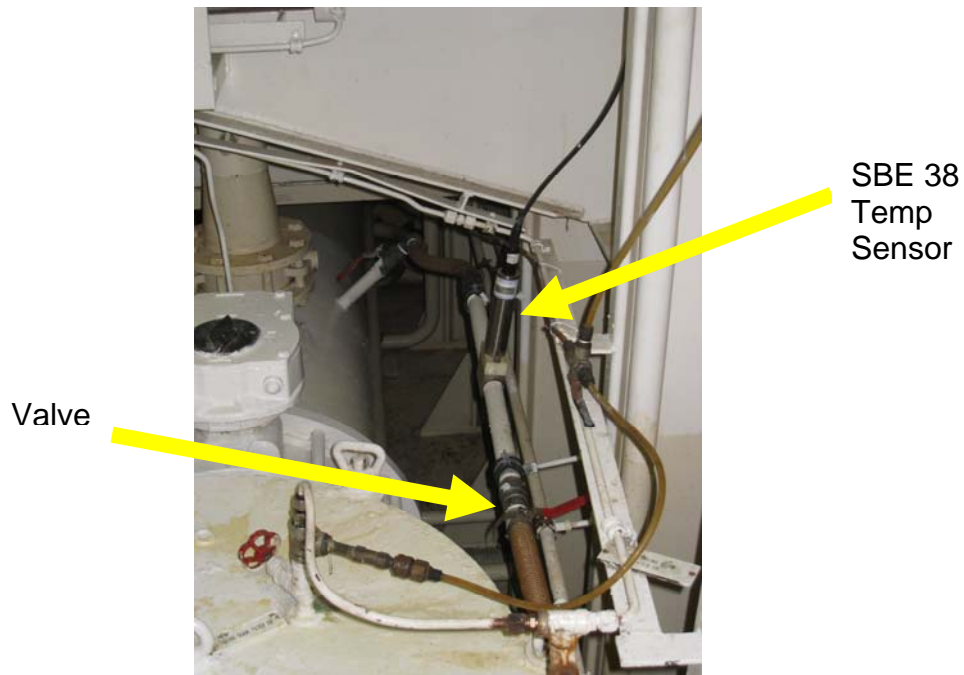

Figure 1. SBE 38 Temp. Sensor and Valve
1. Open the stainless steel ball valve located after the SBE38 remote temperature sensor just behind the sea chest (Fig. 1).
- Close the stainless steel ball valve located after the SBE38 remote temperature sensor just behind the sea chest (Fig. 1).
2. Close the stainless steel ball valve located after the SBE38 remote temperature sensor just behind the sea chest (Fig. 1).